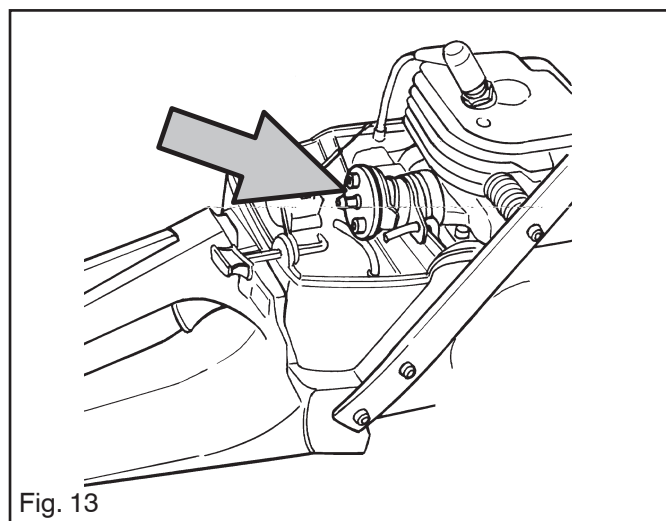

Fig. 13
2. Fit cover plate (*Refer to pos. 2a "3 Service tools" on page 8*) with M4x15 mm bolt on the intake manifold. See fig. 13.